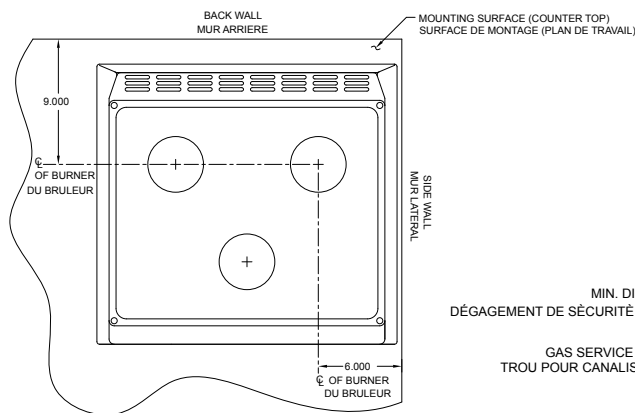

Figure 1A
- Minimum clearances from combustible walls above and below counter: (See Figure 1A)